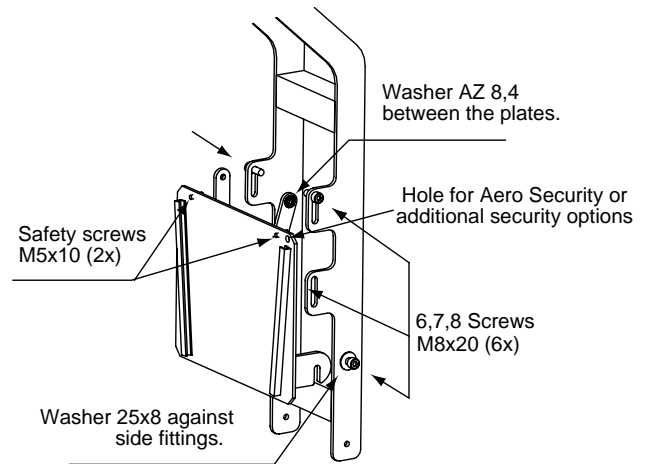
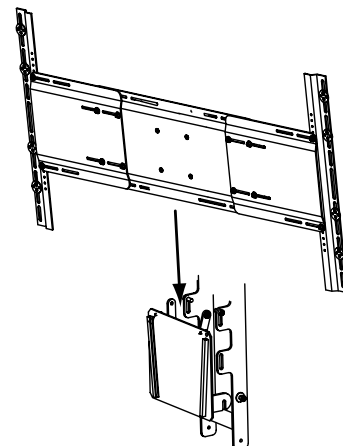

Figure 3
Figure 4
- ⑥ Attach universal plasma or plasma specific bracket to monitor using enclosed screws and washers (see separate instruction sheet).
- ⑦ Hook adapter plate onto M8 x 20 screws on side fittings. Make sure washers are tight against the fittings. Fasten screws, making sure that washers are between the plates (see Fig. 3). Use holes appropriate to screen size (see Fig. 6, page 2).
- ⑧ PLEASE NOTE: This step requires two people. Hook display with bracket onto the adapter plate (see Fig. 4). Tilt display to desired position and re-tighten all screws. Lock the plasma bracket by turning the M5 x 10 safety screws toward the display. Cover the bolt heads with plastic covers (see Fig. 3).